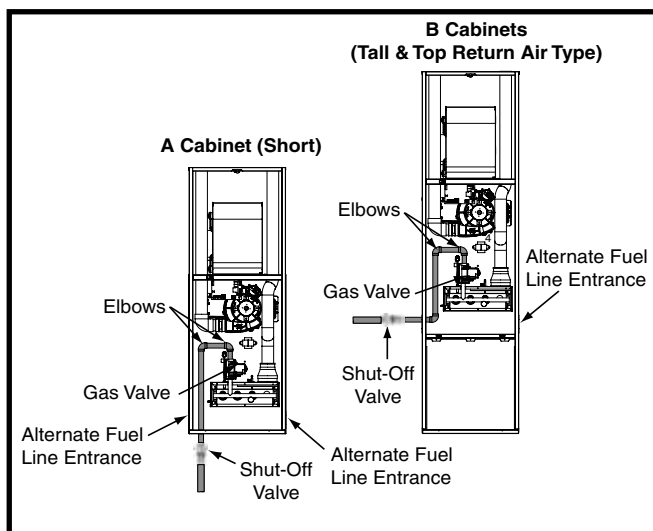

Figure 18. Typical Gas Connections
- Some local regulations require the installation of a manual main shut-off valve and ground joint union external to the furnace as shown in Figure 18. The shut-off valve should be readily accessible for service and/or emergency use. Consult the local utility or gas supplier for additional requirements regarding placement of the manual main gas shut-off.
The furnace is installed with a bottom gas entry. When connecting the gas supply, provide clearance between the gas supply line and the entry hole in the furnace casing to avoid unwanted noise and/or damage to the furnace. Typical gas hookups are shown in Figure 18.